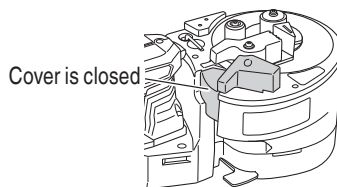

Fig. 41
- (4) Make sure the cutter's cover is closed (Fig. 41)